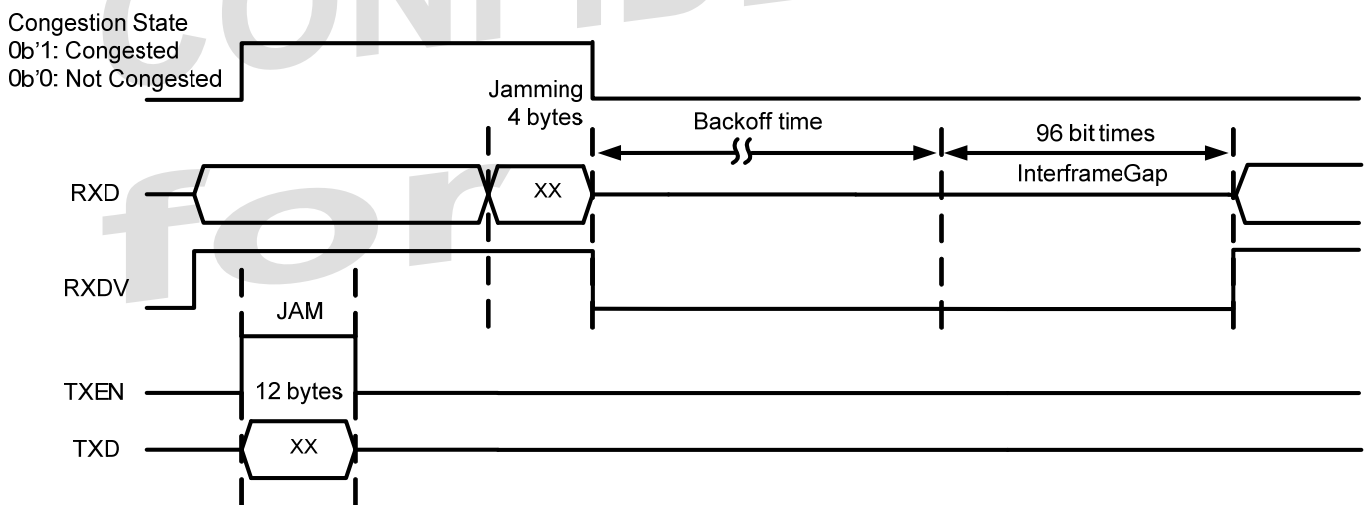

Figure 15. Signal Timing for Collision-Based Backpressure
- After the RTL8380M/RTL8382M/RTL8382L receives this jamming signal, it drives RXDV low. The link partner waits for a random backoff time then re-sends the packet. The timing is shown in Figure 15